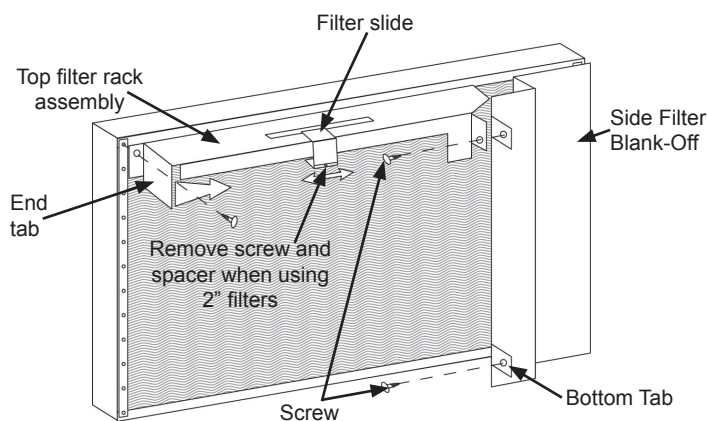

Fig. 1 - Filter Rack
4. Install the Side Filter Blank-Off in front of the indoor coil on the far right side, as shown in Figure 1 and 1A. Install screw through bottom tab of side filter blank-off, and into unit divider panel.
5. Before installing the Top Filter Rack, make sure the Filter Slide is installed as shown in Fig. 1. The Filter Slide will allow for easier filter access.
For easier installation, temporarily bend the end tab on the Top Filter Rack to the right Fig. 1. Screw through the pre-punched hole in the top left of the Top Filter Rack and into the indoor coil frame using 1/2" long blunt end screws, as shown in Fig. 1. Bend end tab back in place (vertical).
Line up the hole in the top tab of the Side Filter Blank-off with the end tab on the Top Filter Rack, and screw into unit divider panel as shown in Fig. 1 and 1A.
If using a 2" wide filter, the Filter spacer shown in Fig. 1 will be removed. Unscrew and discard.
13. Remove the filter access panel (horizontal return panel) and install disposable filters in filter rack behind filter clips. Fig. 1. See Table 2 for filter sizes.